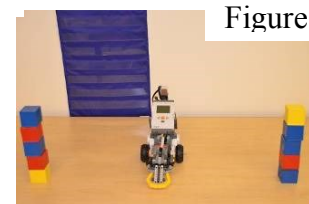

Figure 3
- Then they need to drive and stop the Robot where the stack will be built. Staff or peers will unload the blocks. Students can use the backward command if they go past the stop location. See Figure 3